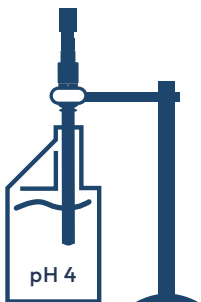

Figure 12: Sensor calibration setup with pH 4 buffer solution
2. Clamp the sensor to hold it in position inside the buffer solution bottle (see Figure 12).